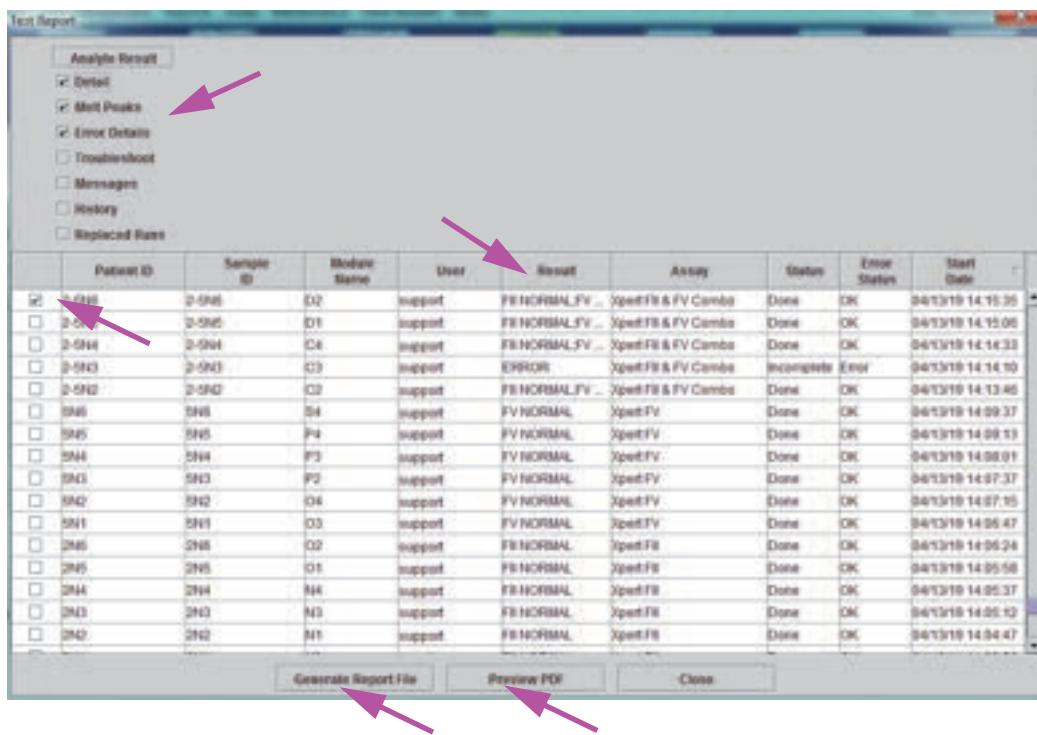

Figure 5-57. Select Test to Be Viewed Dialog
- Click the **Generate Report File** button on Test Report workspace (see Figure 5-57) to create the PDF file of the test report. The Generate Report File dialog box will appear, which enables you to save the file to a specified location. Click **Save** once you have navigated to the specified location.